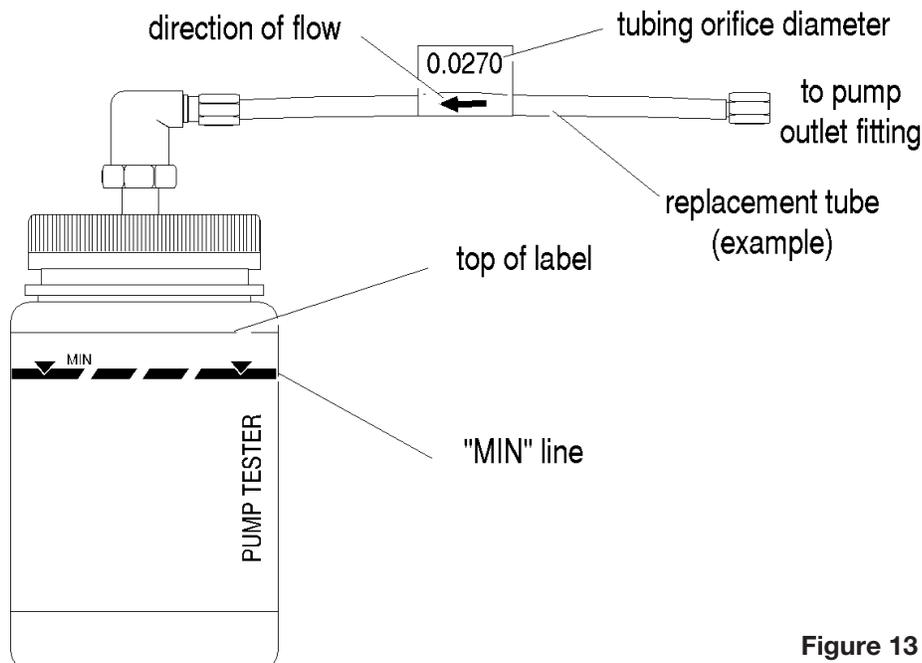

Figure 13
5. Thread the other end of the replacement tube (4) to the fitting (5) on the pump test bottle (6) until finger tight. Do not cross thread the fittings. **Do not overtighten.**
7. Be prepared to record the time it takes for the water level displayed on the pump tester to reach the top of the line marked MIN (see Figure 13). Activate the pump.